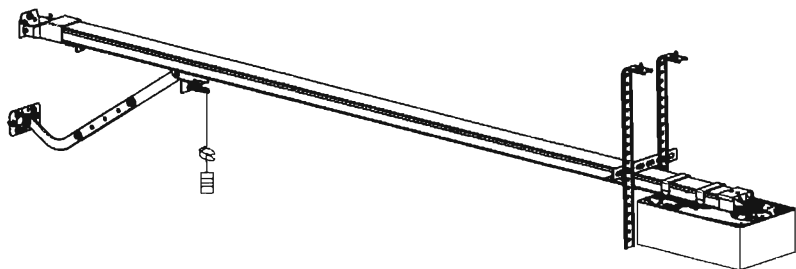

Fig.6
3. Sleeve the motor shaft adapter to the motor shaft according to Fig. 6